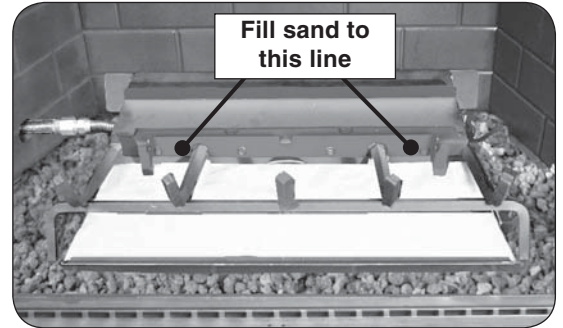

Fig. 9-2 Place sand
1. Fill the burner pan completely with the sand (see Fig. 9-2).